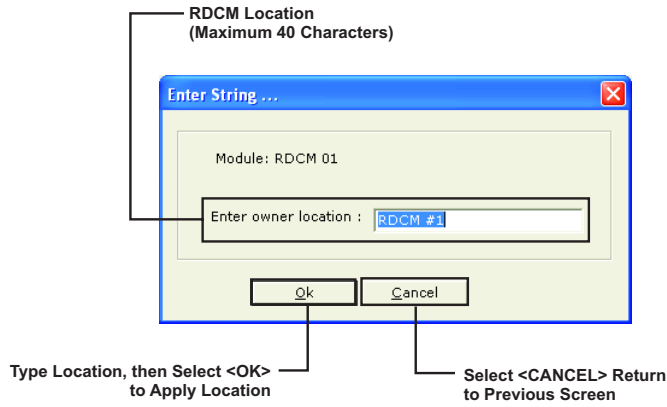

Figure 2-36. RDCM Location Screen
2. Enter the range of either RDCM(s) (1 to 15) or ATM(s) (1 to 16) being used, then click <OK>. Figure 2-36 displays (if ATM is being used, the dialogue in the screen reflects ATM).